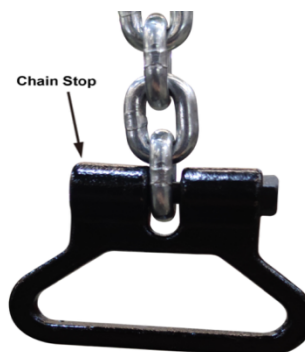

Figure 2
1. A chain stop must be attached to the last link of the chain, and only in vertical position of the side plates. See Figure 2.